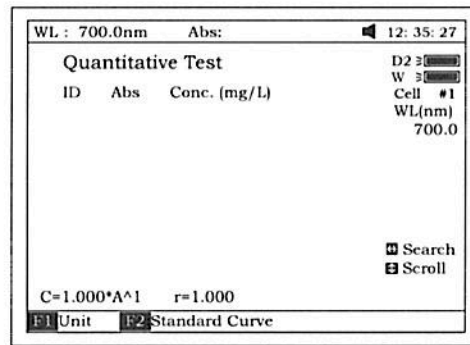
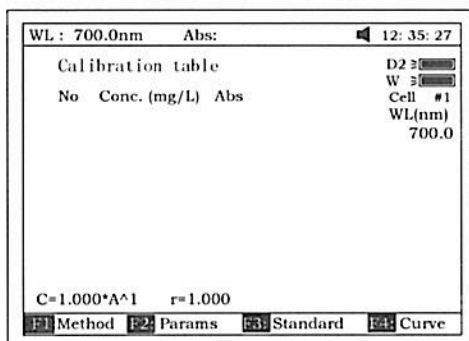
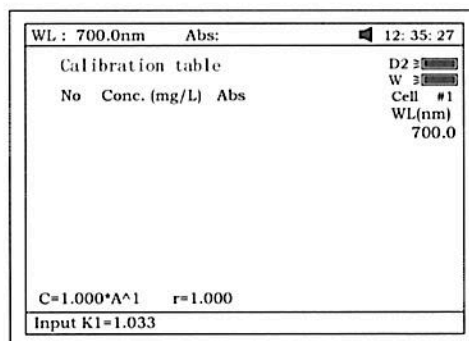
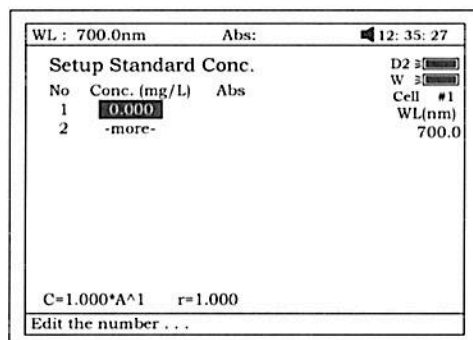

Fig 26
Fig 29
Fig 29A
Fig 30
Press **【2】** in Main Menu for "Quantitative" Test (Fig 26). Press **【ESC/STOP】** to exit.
*Note: .If no automatic changer installed "cell #1" will disappear in Fig26.*
3. Press **【F2】** in Fig 26 for more items to select. See Fig 29.
3.1 Press **【F1】** in Fig 29 to select fitting method. There are 4 methods for you to choose: Linear fit, linear fit through zero, square fit and cubic fit.
3.2 Press **【F2】** in Fig 29 to enter directly a known standard curve. Fig 29A.
3.3 Press **【F3】** in Fig 29 to establish a standard curve by measuring a group of standard samples. See Fig 30.
See 3.2. For Fig 29 enter a known standard curve directly.
*Note: All sample results must be taken in screen Fig26.*